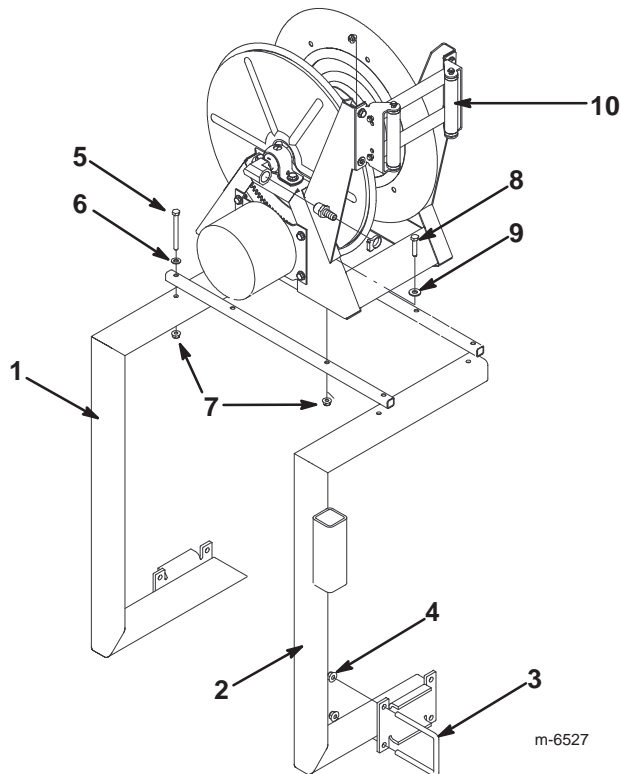

Figure 4
6. Install the 2 hose reel mounting tubes to the top of the hose reel frames (Fig. 4) using 4 bolts (5/16 x 3-1/4 inch), 4 washers (11/16 inch outside dia), and 4 flange nuts (5/16 inch). Do not fully tighten the fasteners to allow for later adjustment.
7. Install the hose reel assembly onto the hose reel mounting tubes (Fig. 4) using 4 flange-head bolts (5/16 x 1-1/2 inches), 4 washers (7/8 inch outside dia), and 4 flange nuts (5/16 inch). Do not fully tighten the fasteners to allow for later adjustment.